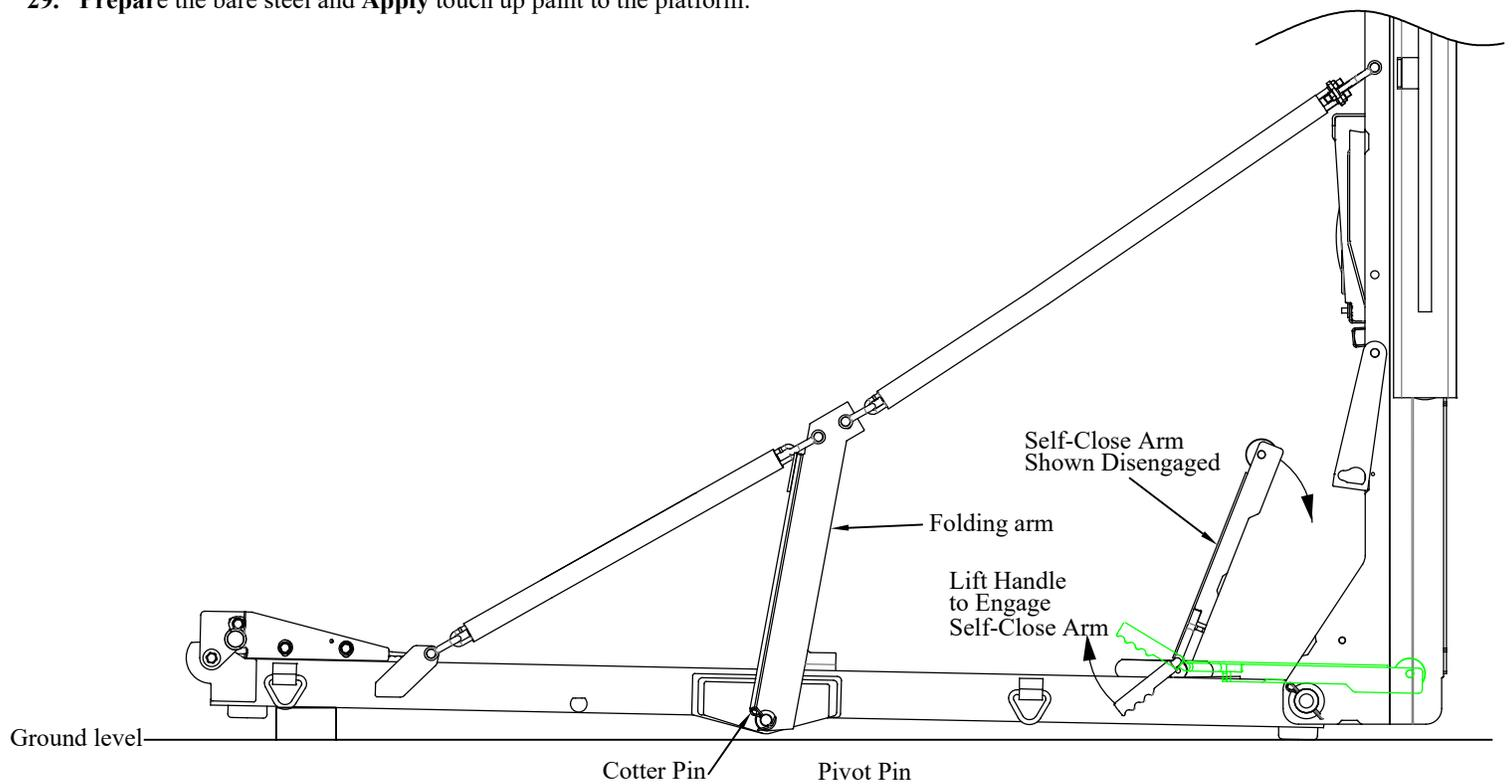

Figure 14: Bifold Platform lowered with slack in chains.
33. **Engage** the self-close arm (Figure 14).